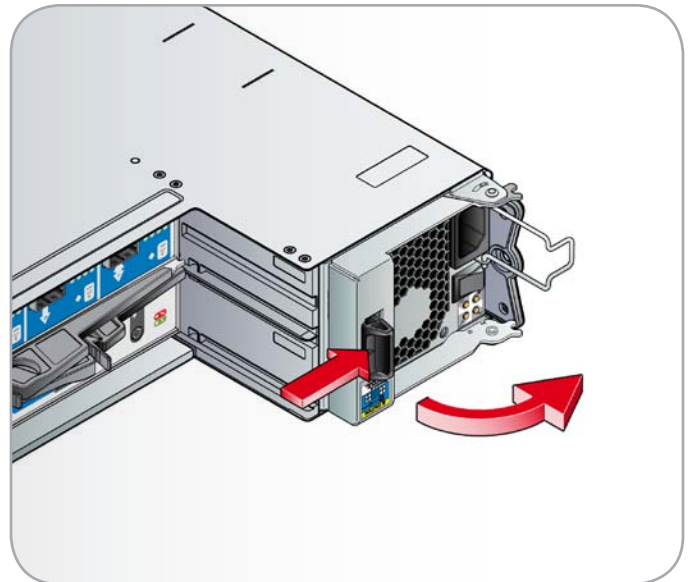

Fig. 30 - Removing the Power Cooling Module (1)
1. Grasp the latch and the side of the power cooling module handle between your thumb and forefinger, then squeeze together and open the handle to extract the PCM out of the enclosure (*Fig. 30*).